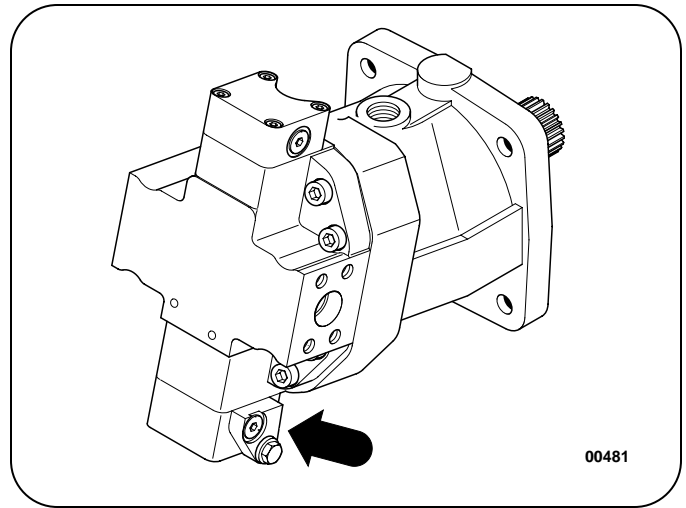

Figure 24: Wheel Drive Motor Port "M1"
5. Locate port "M1" on each wheel drive motor. See Figure 24.